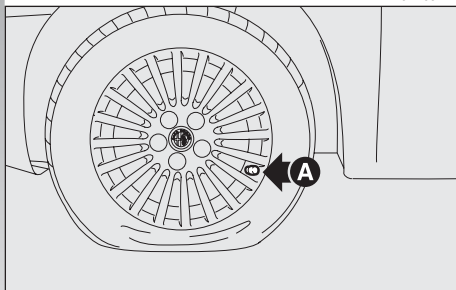

fig. 12
- place the wheel with the valve **A-fig. 12** in the position illustrated in the figure, **engage the handbrake**, then remove the quick repairing kit and place it on the ground next to the wheel;